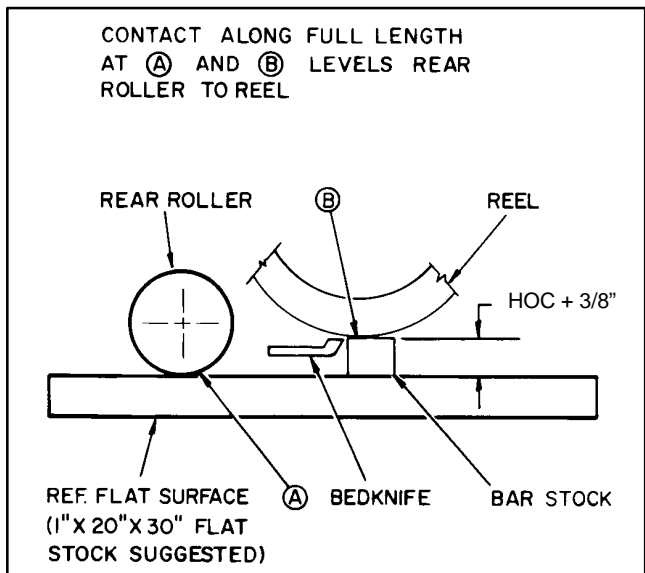

Figure 8
C. Insert a piece of bar stock 25" – 28" (70 cm) long (Fig. 8), and approximately 3/8" (9.5 mm) thicker than the desired height-of-cut, under the reel and up against the bedknife cutting edge (Fig. 8). The reel (not bedknife) must contact the bar stock along its full length.